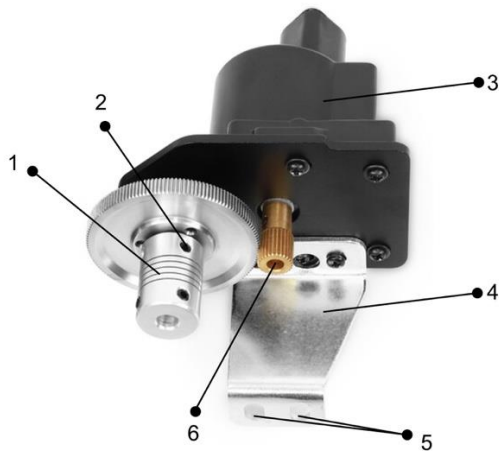

Figure 3
Align the tracking motor with its mounting bracket with the threaded holes of the mounting screws and at the same time push the shaft coupling onto the shaft of the RA drive screw. First ensure that the clamping screws of the shaft coupling (1, Fig. 3) are not protruding into the bore of the coupling.
5. Clamp the flexible shaft coupling (1, Fig. 3) using the clamping screws (2, Fig. 3) of the shaft coupling, then carefully tighten the mounting screws.